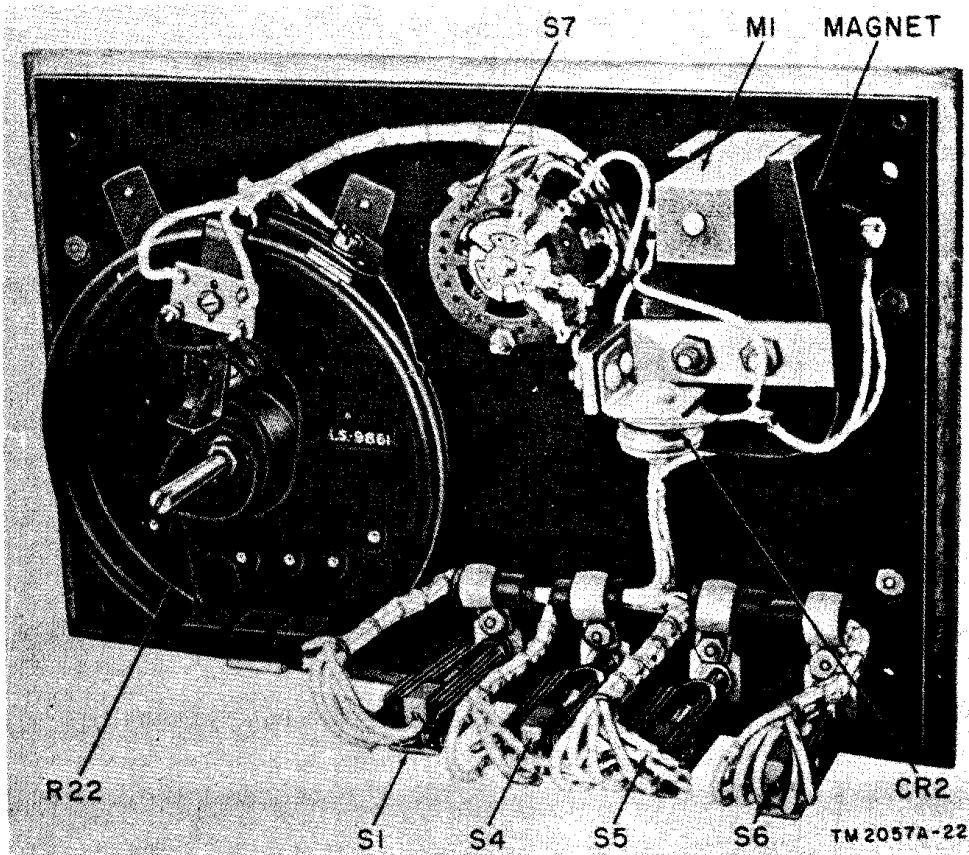
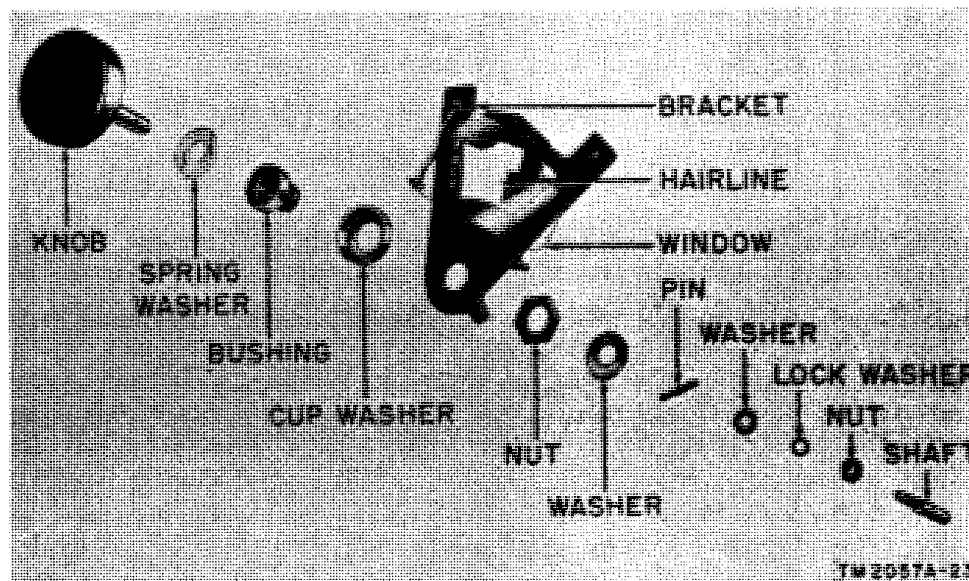

Figure 24. Test Set TS-27B/TSM, bottom view of instrument panel.
Figure 25. Test Set TS-27B/TSM, exploded view of slide-wire potentiometer (R22) knob and mounting bracket.
b. SLIDE-WIRE POTENTIOMETER R22. Release the instrument panel by taking out the flathead screws in each of the four corners. Turn the panel over (fig. 24) and rest it carefully on a suitable support. Loosen the small hexagonal nut (fig. 25) on the end of the shaft nearest the drum. Remove the dial drum carefully so as not to damage the contact arm which bears on the slide-wire. A certain amount of pressure may be necessary to do this. Remove the pin from the knob shaft and then lift out the knob. Solder the leads to the new slide-wire potentiometer R22; check connections with the wiring diagram of figure 21.
CAUTION: Handle the slide-wire potentiometer carefully to avoid damaging the winding. Do not touch the winding with bare hands or fingers, since this may throw the potentiometer out of calibration. Slight nicks in the wire may also cause faulty indications, and are therefore to be avoided. Reassemble the new slide-wire potentiometer to the instrument panel by reversing the removal procedures given above. Make certain the leads from the slide-wire are wrapped around the shaft properly (fig. 24) to allow for the slack needed by the turning of the drum.
b. If the reading on scale C differs by more than two percent from the known value of the resistor under test, release the screw which clamps the slide-wire contactor to the hairline bracket (fig. 24), and carefully shift the position of the contactor until the galvanometer indicates zero when the proper push switch (OHMS or OHM X100) is depressed. Then tighten the clamping screw, being very careful not to change the position of the contactor.. Depress the proper push switch again and check the clamped position of the contactor. Disconnect the known resistor from binding posts T-R of PR-1.